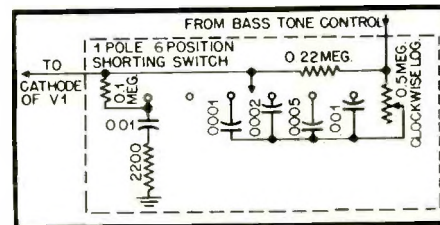

Fig. 4. A suggested treble tone-control circuit. This corresponds to box "B" in Fig. 2.
*Figure 4* shows the treble control, which has one position giving 3 db rise,